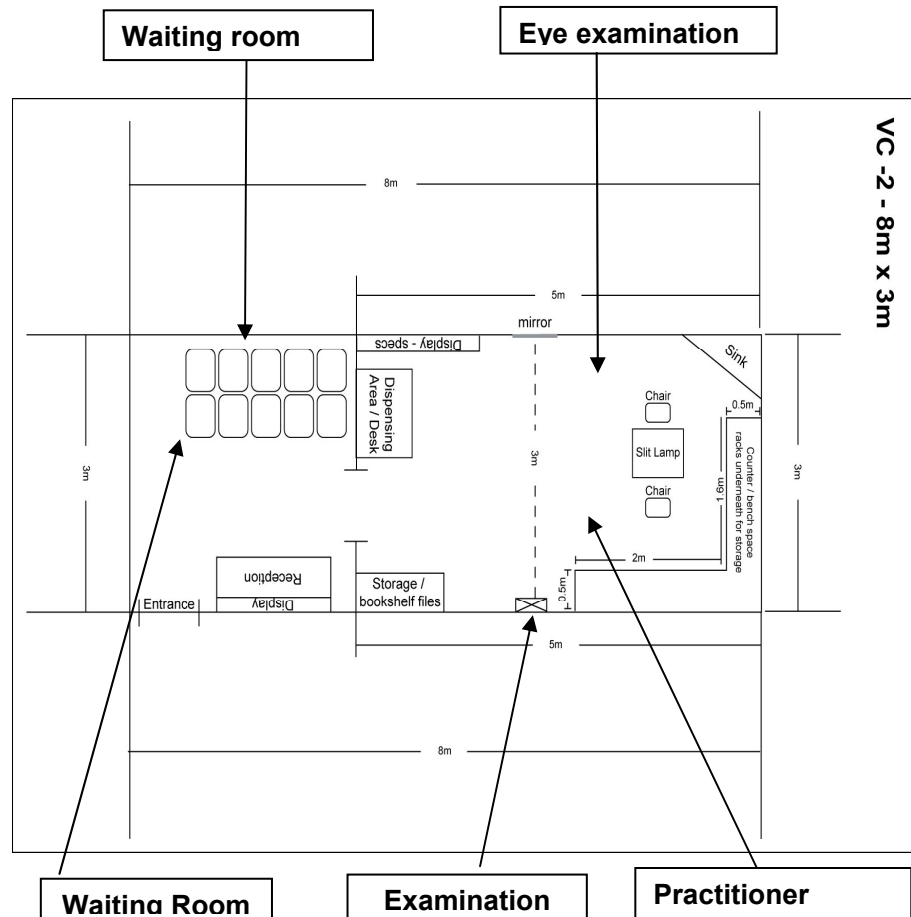

Figure 29.4: An ideal layout for a refraction clinic
Below (Figure 29.4) is an example of an ideal layout for a refraction clinic.
- Refer to Figure 29.4.